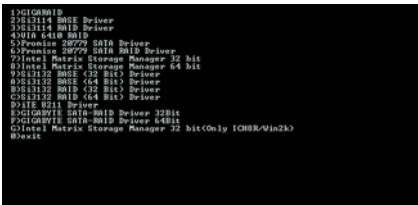
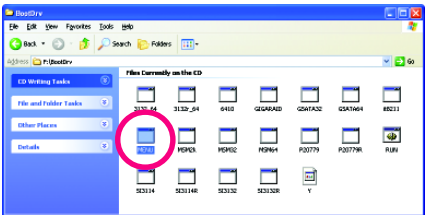

Figure 2
Figure 3
Step 2: When the controller menu (Figure 2) appears, remove the startup disk and insert the blank formatted disk. Select the controller driver by pressing the corresponding letter from the menu. For example, from the menu in Figure 2, select **7) Intel Matrix Storage Manager 32 bit** for Windows 32-bit operating system or **8) Intel Matrix Storage Manager 64 bit** for Windows 64-bit. Your system will then automatically zip and transfer this driver file to the floppy disk. Press <0> to exit when finished.
Use an alternative system and insert the motherboard driver disk. From your optical drive folder, double click the **MENU.exe** file in the **BootDrv** folder (Figure 3). A command prompt window will open similar to that in Figure 2.